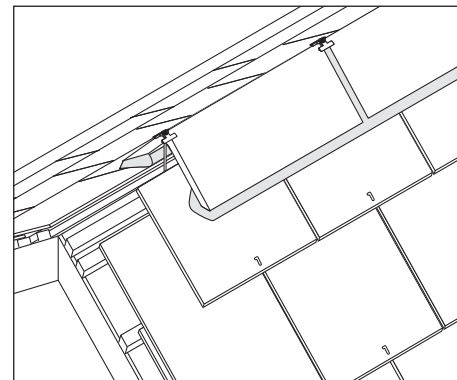

Fig. 23 – Ridge finished with mortar bedded angular ridge tile, mechanically fixed
- 3 The ridge fittings should be edge bedded onto the top course of the slates with solid bedding at butt joints, supported by slate pieces (Fig. 23).